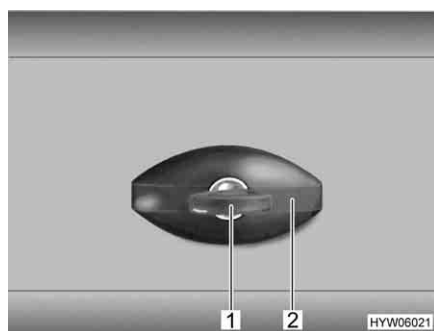

Fig. 50 Flap lock, elliptical-shaped, closed
- Insert key into locking cylinder (Fig. 50, 1) and turn a quarter turn in an anti-clockwise direction. The lock handle (Fig. 50, 2) snaps out.